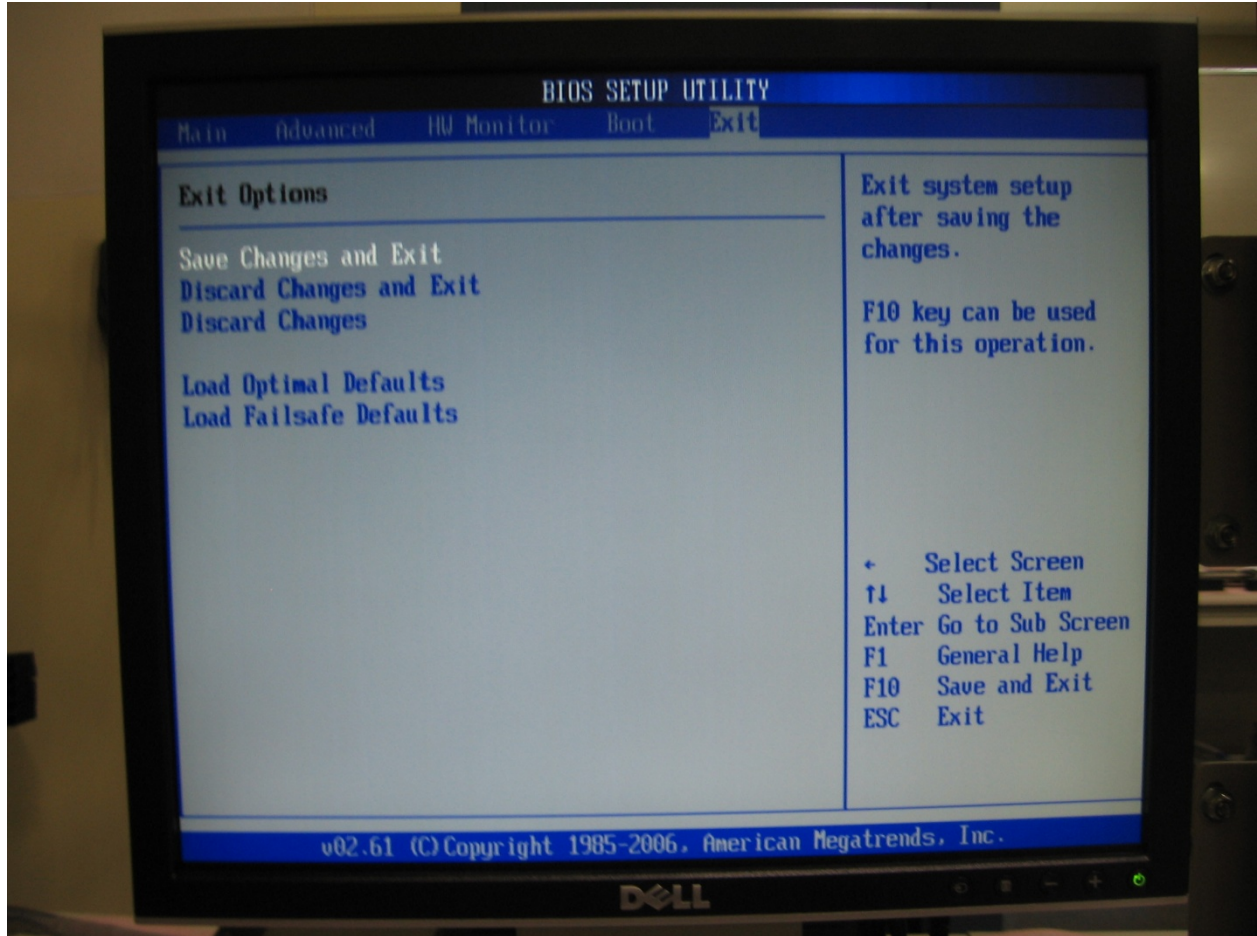

Figure 7-35 Exit Option screen.
8. On the **BIOS Setup Utility** screen, scroll across and select **Exit** tab. Press **F10**. (Figure 7-35).